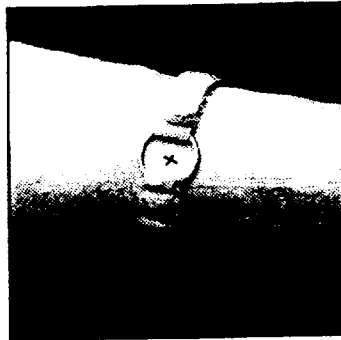

Fig. E.1
- 1. Locating the RAF Relative to the Nonunion Site.** Once casted, the location of the nonunion is determined by a radiograph taken with the Locating Ring affixed to the cast surface in the approximate area of the nonunion. The position of the ring is marked on the cast before removing the ring. The radiograph verifies the position of the ring in relation to the nonunion site and an appropriate correction mark is made on the cast (Fig. E.1).